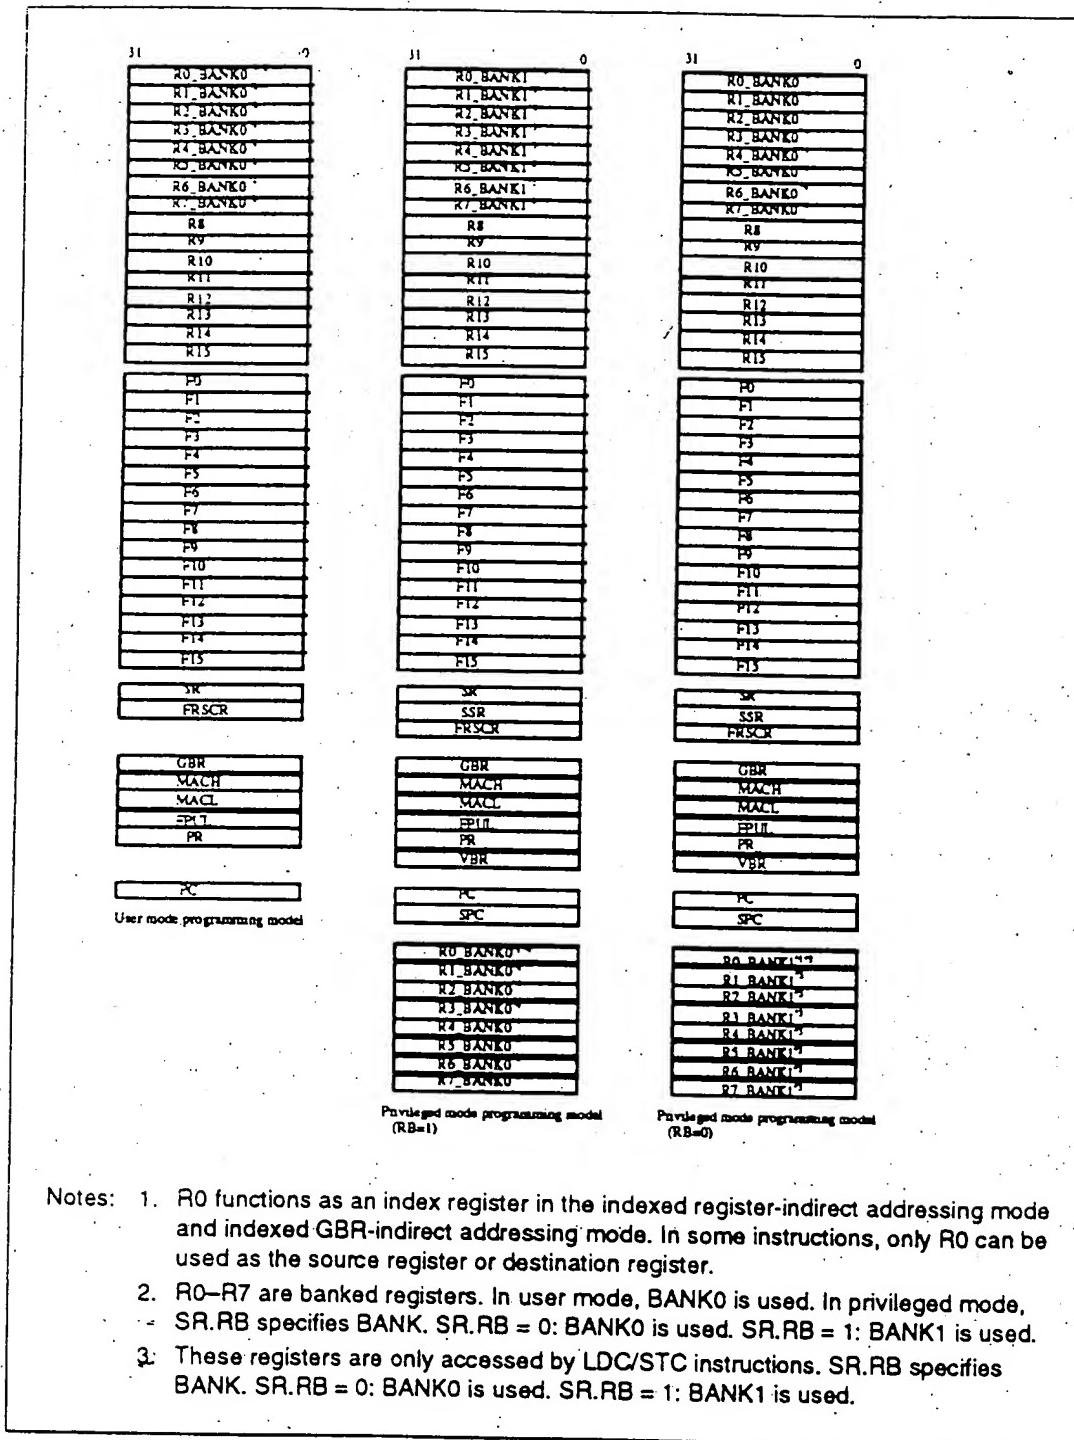

Figure 2.1 Programming Model of CPU and FPU
When the RB bit is a logic zero, BANK0 general-purpose registers R0-R7\_BANK0 and non-banked general-purpose registers R8-R15 function as the general-purpose register set, with BANK1 general-purpose registers R0-R7\_BANK1 accessed only by the LDC/STC instructions. In user mode (MD=0) BANK0 general purpose registers R0-R7\_BANK0 function as the general purpose register set regardless of register bank (RB) setting. The programming model for each processor mode is listed in figure 2.1 and the registers are briefly defined in figures 2.2 and 2.3.